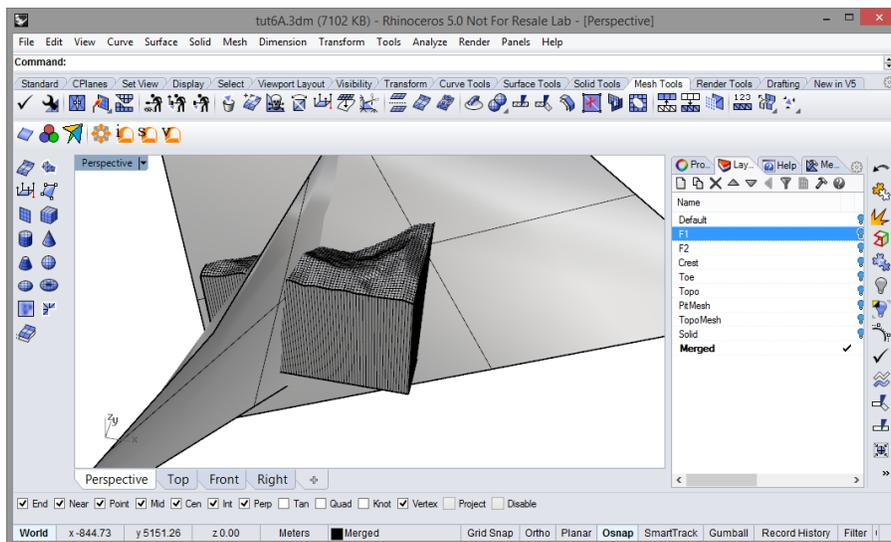

Figure 162: Faults and pit geometry in layer Merged.
1. Turn **Solid, F1** and **F2 on** in the Layers Panel. Double-click the label of the Perspective view to maximize it. Select the solid and the fault surfaces and copy them into a new layer called Merged (similar steps to what you did previously when creating new layers). Make the Merged layer the only active layer (Figure 162).